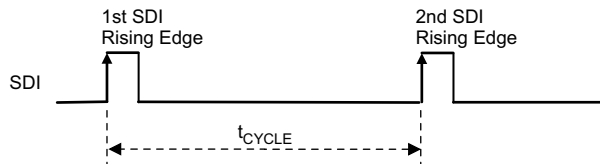
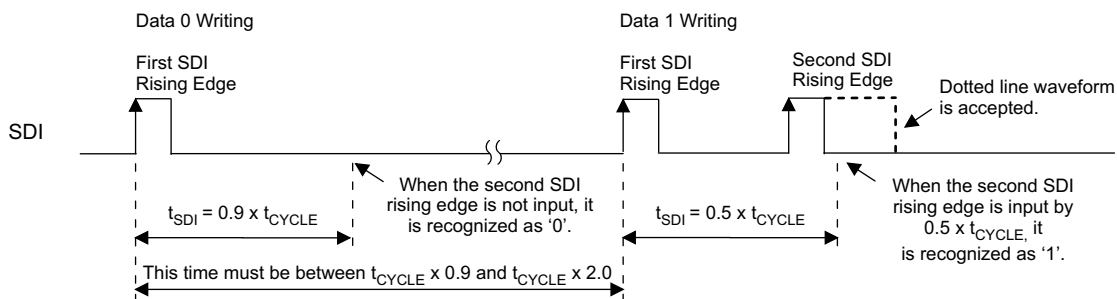

Figure 14. Data Transfer Rate ( $t_{CYCLE}$ ) Measurement
Figure 15. Data '0' and '1' Write Operation
The TLC5973 measures the time between the first and second SDI rising edges either after the device is powered up or when the GS data latch sequence is executed (as described in the GS Data Latch Sequence \(GSLAT\) section) and the time is internally stored as  $t_{CYCLE}$ .  $t_{CYCLE}$  serves as a base time used to recognize one complete data write operation, a 48-bit data write operation, and a GS data write operation to the GS data latch.  $t_{CYCLE}$  can be set between  $0.33 \mu s$  and  $10 \mu s$  ( $f_{CLK(SDI)} = 100 \text{ kHz}$  to  $3000 \text{ kHz}$ ). In this sequence, two instances of data '0' are written to the LSB side of the 48-bit shift register. Figure 14 shows the  $t_{CYCLE}$  measurement timing.
When the second SDI rising edge is not input before  $0.9 \times t_{CYCLE}$  elapses from the first SDI rising edge input, the data are recognized as '0'. When the second SDI rising edge is input before 50% of  $t_{CYCLE}$  elapses from the first SDI rising edge input, the data are recognized as '1'. This write sequence must be repeated 46 times after the  $t_{CYCLE}$  measurement sequence in order to send the write command to the higher 10-bit (3AAh) and 36-bit GS data. Figure 15 shows the data '0' and '1' write timing.
2. Write the 48-bit data packet (MSB-first) for the first device using  $t_{CYCLE}$  and the data write sequences illustrated in Figure 14 and Figure 15. The first 12 bits of the 48-bit data packet are used as the write command. The write command must be 3AAh (001110101010b); otherwise, the 36-bit GS data in the 48-bit shift register are not copied to the 36-bit GS data latch.